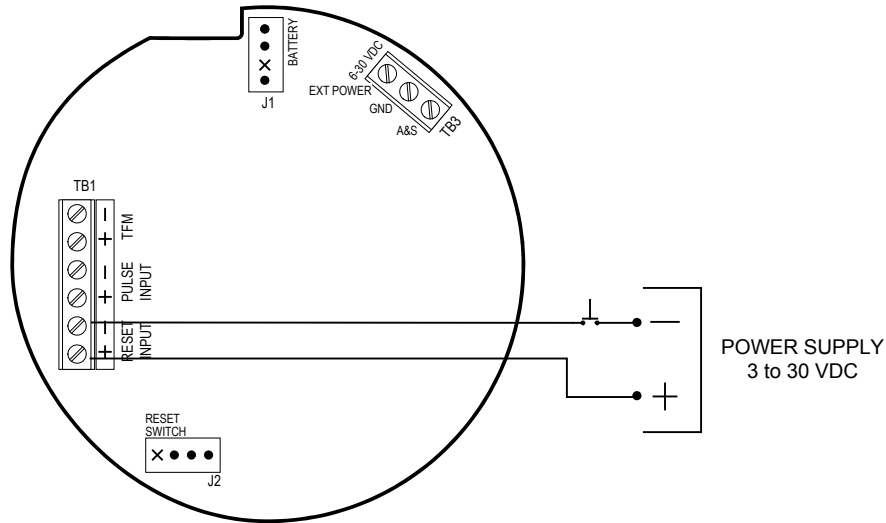
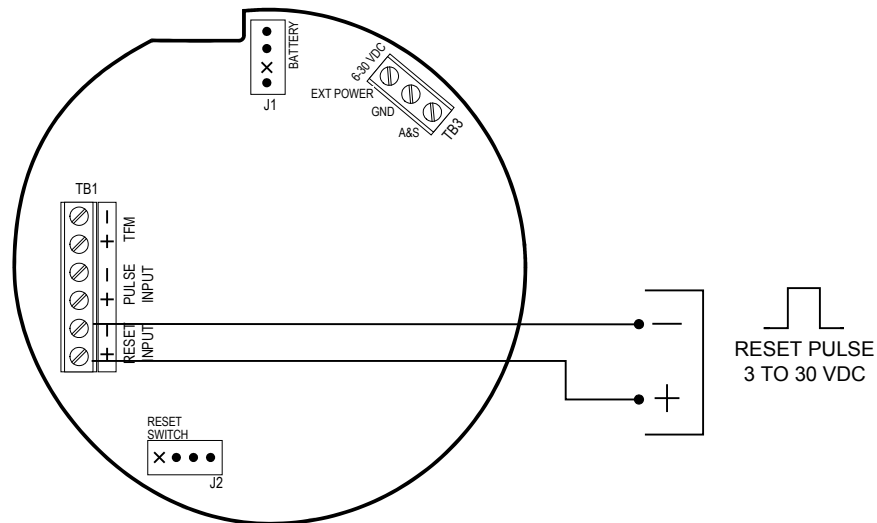

Figure 2.5—Reset input wiring (switch/power supply)
Figure 2.6—Reset input wiring (pulse)
4. Connect wiring for the remote reset input to terminal block TB1, if appropriate. See *Figure 2.5* or *Figure 2.6, page 20*.
The remote reset input allows the operator to reset the accumulated volume on the MC-III Panel Mount to zero with a switch or a pulse. This input is optically isolated. The input is shown connected in two ways, with a power supply and switch in a remote location (Figure 2.5), and with a pulse generator in a remote location (Figure 2.6).